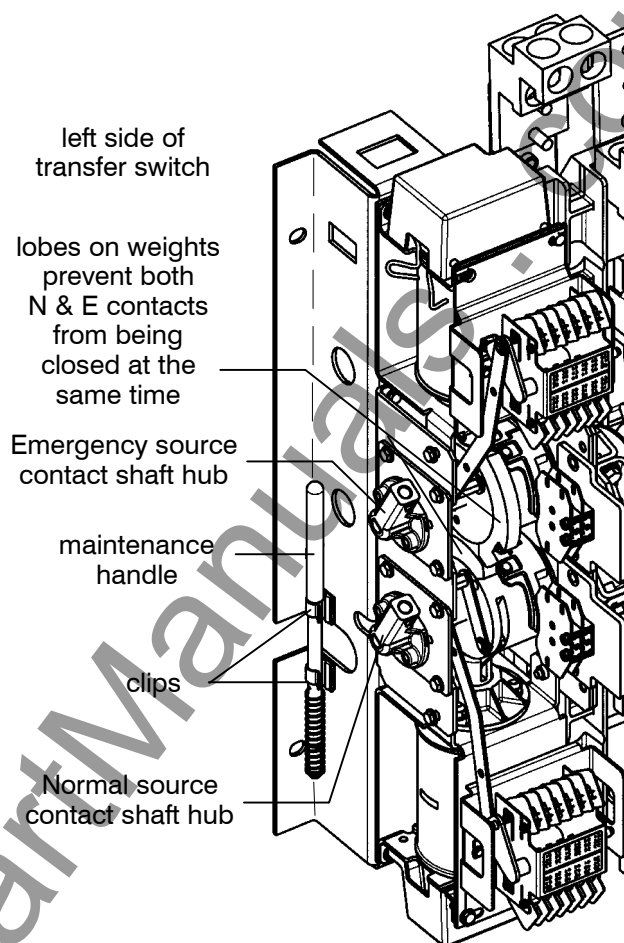

Figure 1-3. Maintenance handle storage location. Hubs shown with Normal closed & Emergency open.
1. After deenergizing both power sources, open the enclosure door. Locate and remove the maintenance handle from the clips on the left side of the transfer switch frame. Insert the handle into the hole in the molded hub on the left side of the operator. See Figures 1-3 through 1-5 and Table B (on page 1-2).